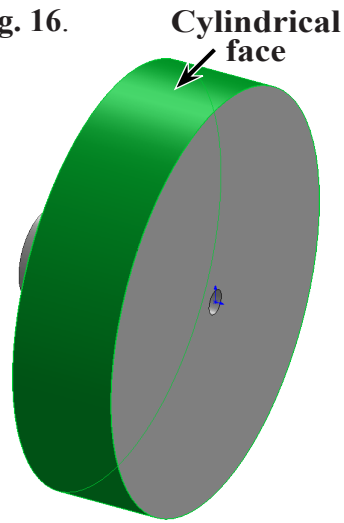

Fig. 16
Step 2. Click **cylindrical face of Rim** to select it, **Fig. 16**.